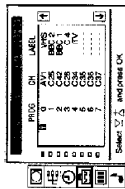

Fig. 25
- 3 Select «Parental Lock» with $\Delta +$ or $\nabla -$ and press OK. The PARENTAL LOCK menu appears. (See Fig. 25)